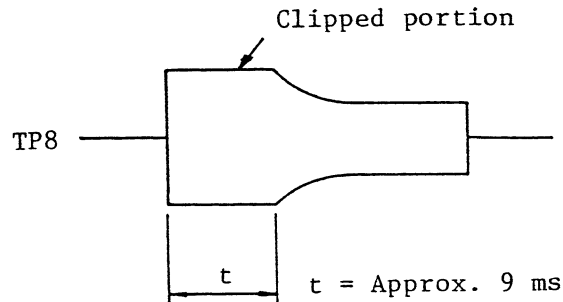

Fig. 428 Check of AGC operation
(3) Check and adjustment procedures
- (e) Check if the waveform shown in Fig. 428 appears at TP8.
- (f) If the clipped portion shown in Fig. 428 does not appear, check if the strap S1 is open and S2 is shorted on the PCBA Drive Control.